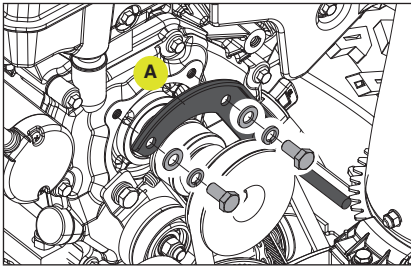

Figure 60
2. Remove belt guide (A) by removing two M8 x 20 bolts, flat and locking washers. (Fig. 60)